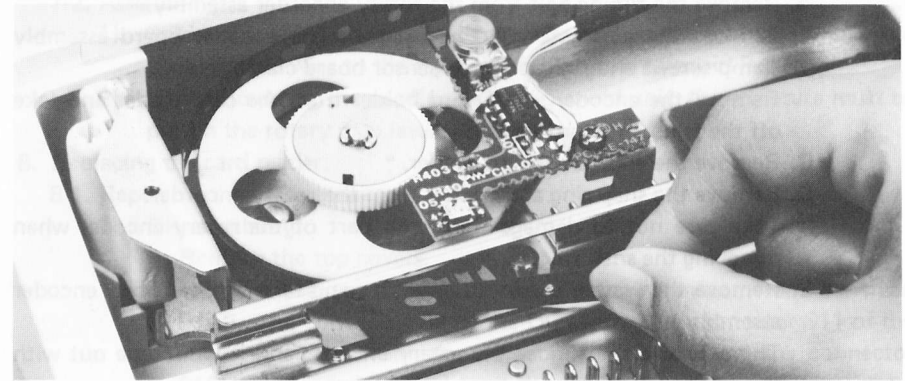

Fig. 86
D. On the pully side, pass the timing belt from the side of the machine body by fitting the belt connecting hole into the concave part of the pulley and feeding it to the rear rail side. (Fig. 86)